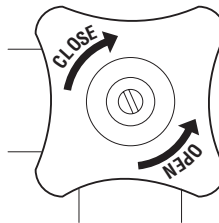

Fig. 7
**(iii)** Turn to the right to horizontal - Normal operating position. See fig. 7.